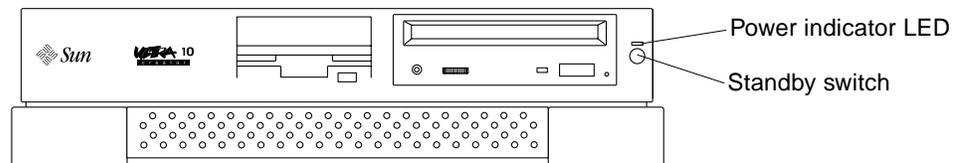
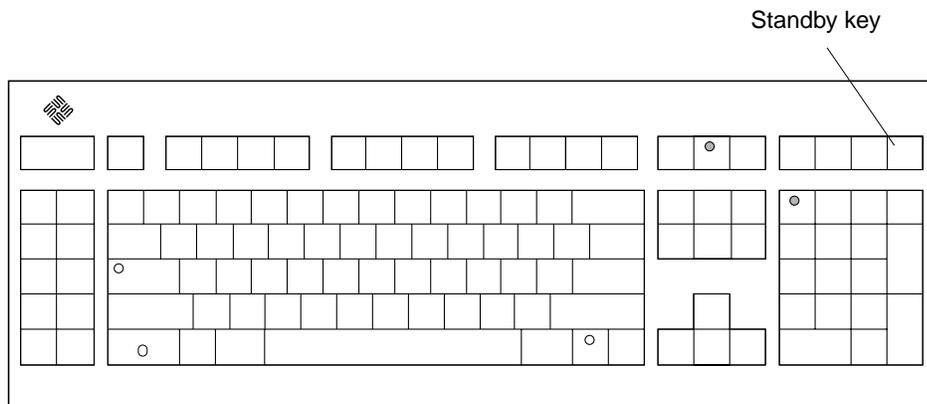
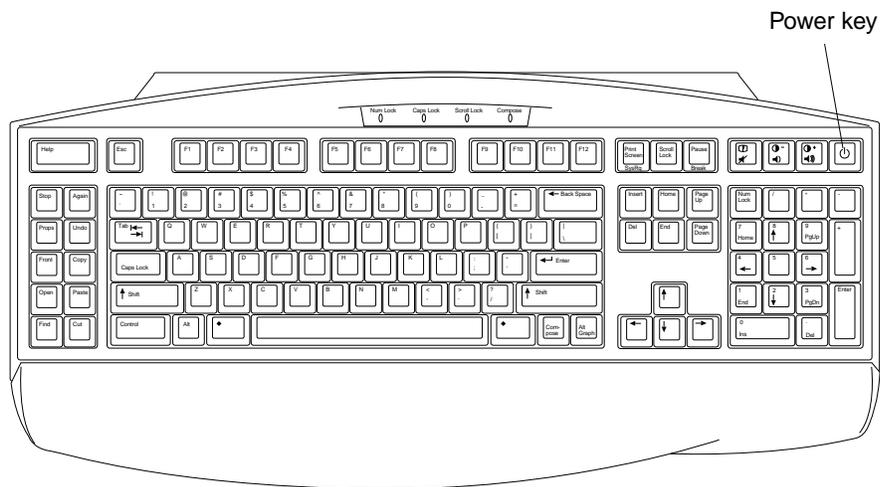

FIGURE 5-1 System Standby Switch
FIGURE 5-2 Sun Type-5 Keyboard
FIGURE 5-3 Sun I/O Type-6 Keyboard
2. Press the system standby switch (FIGURE 5-1), or press the Sun Type-5 keyboard Standby key (FIGURE 5-2) or the Sun I/O Type-6 keyboard Power key (FIGURE 5-3).